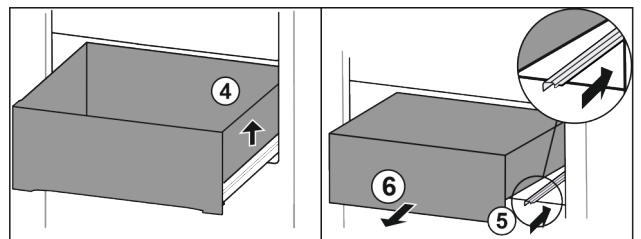

Fig. 23
- ▶ Lift drawer on the right. Fig. 23 (4)
- ▶ Insert right rail. Fig. 23 (5)
- ▶ Remove drawer to the front. Fig. 23 (6)